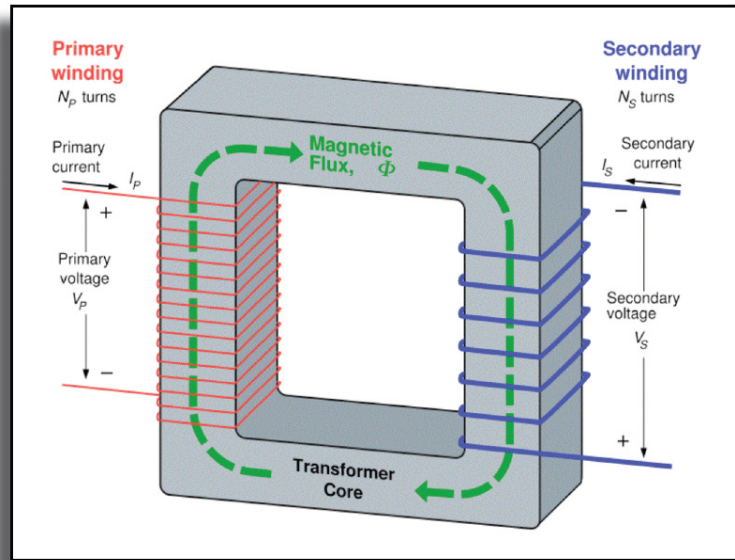

Figure 1: Schematic of an idealized transformer
Figure 1 illustrates the operation of a simple power transformer:
Current Transformers Magnelab Current Transformers (CT) operate on the basic principal of the ratio between the primary winding (N_1) and current (I_1) to the secondary winding (N_2) and current (I_2): $N_1 I_1 = N_2 I_2$ In a current transformer, the primary winding is generally a single conductor with a current passing through it. This conductor is passed once through the center of the transformer and therefore $N_1 = 1$. We can then simplify the formula: $I_1 = N_2 I_2$ or $N_2 = I_1 / I_2$ To understand this better, we need to look at the theoretical function of a transformer. AC voltage applied to the primary winding of an ideal transformer induces a magnetic field of flux in the core. The magnetic flux then induces a voltage in the secondary winding proportional to the turns ratio between the primary and secondary. $V_s = (N_s/N_p) * V_p$ The current in the secondary winding is inversely affected. $V_p I_p = V_s I_s$ Figure 1 illustrates the operation of a simple power transformer: **Figure 1: Schematic of an idealized transformer** The main considerations are the required voltage ratios. This is mathematically expressed using Faraday's law of induction: $V_{out} = N d\phi/dt$ Where, V_{out} is the resulting instantaneous voltage, N is the number of turns on the coil being induced, $d\phi$ is the amount of change in magnetic flux, and dt is the time of the change in flux.